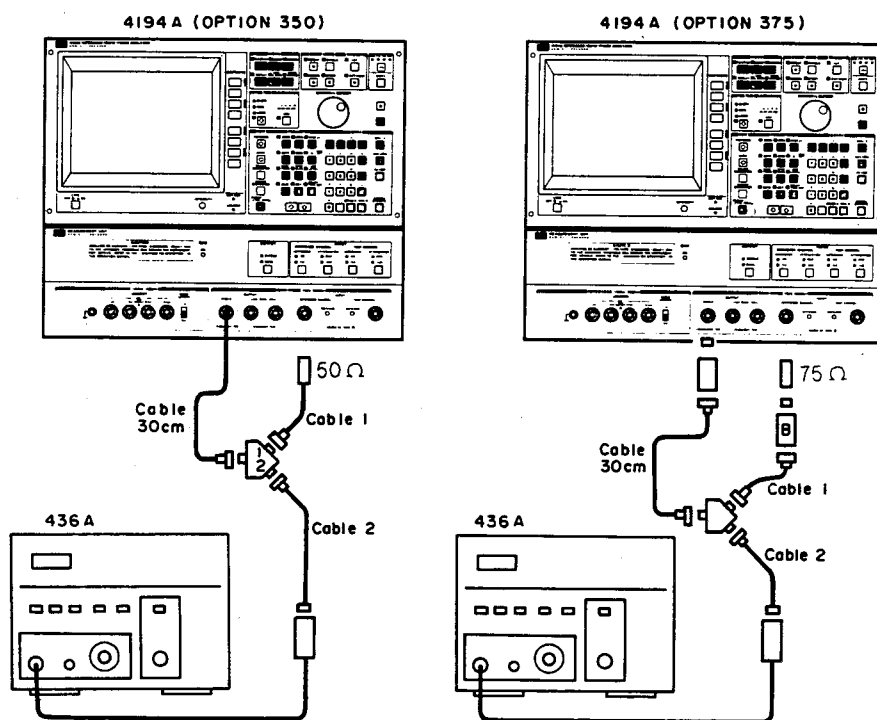

Figure 4-18. Amplitude Measurement Accuracy Test Setup 4.
1. Connect the appropriate (50 $\Omega$  or 75 $\Omega$ ) feedthrough termination to the REFERENCE CHANNEL as shown in Figure 4-18.